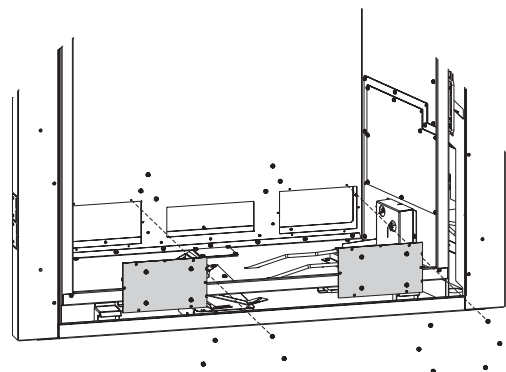

Figure 13
8. Replace Blower Bracket (w/ blowers attached) with (6) screws each. **See Figure 13.**